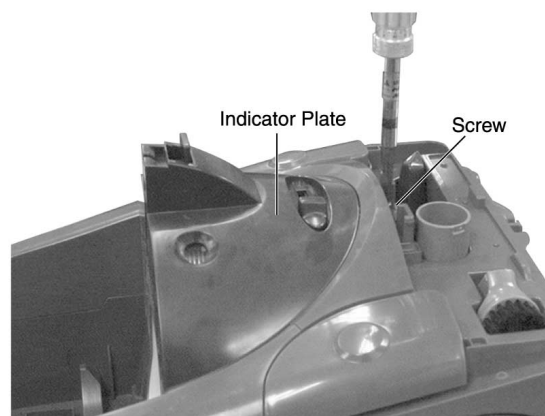

Fig.3
3. Remove the Indicator plate screw 1 pc. (Fig.3)